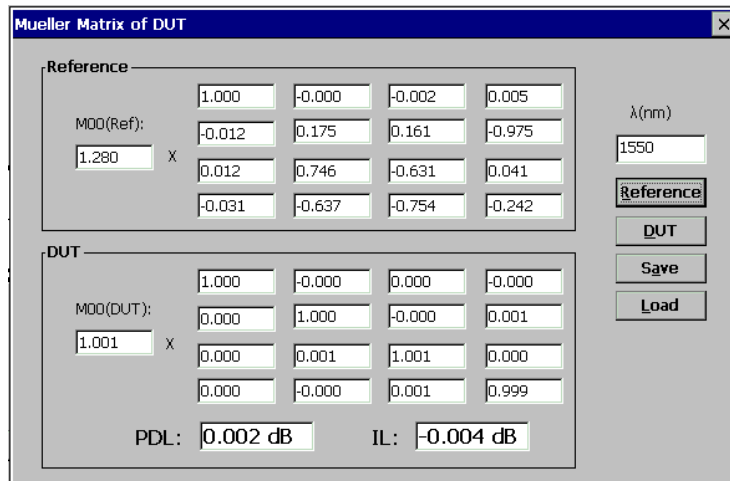

Figure 37 Measured Mueller matrix
Click **“Reference”** to obtain the reference matrix (Figure 37).
The Mueller matrix of the DUT will be displayed in the “DUT” box in the lower half of the screen (Figure 37). The corresponding polarization dependent loss (PDL) and insertion loss (IL) are also calculated and displayed.